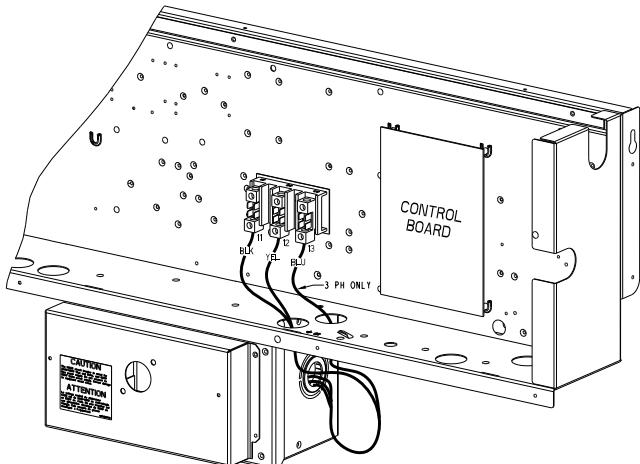

Fig. 21 – HACR Enclosure Location
1. Remove the control box access panel. The HACR enclosure is located below the control box (see Fig. 21).